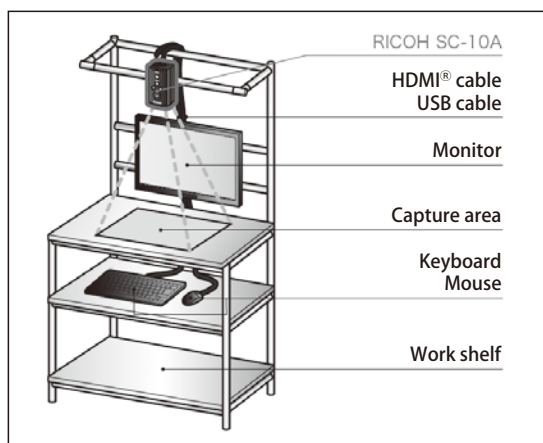

Fig.4 System configuration
- Features an integrated system with image recognition technology and control application built into the camera. No computers are required, allowing users to reduce costs and save space (Fig.4).